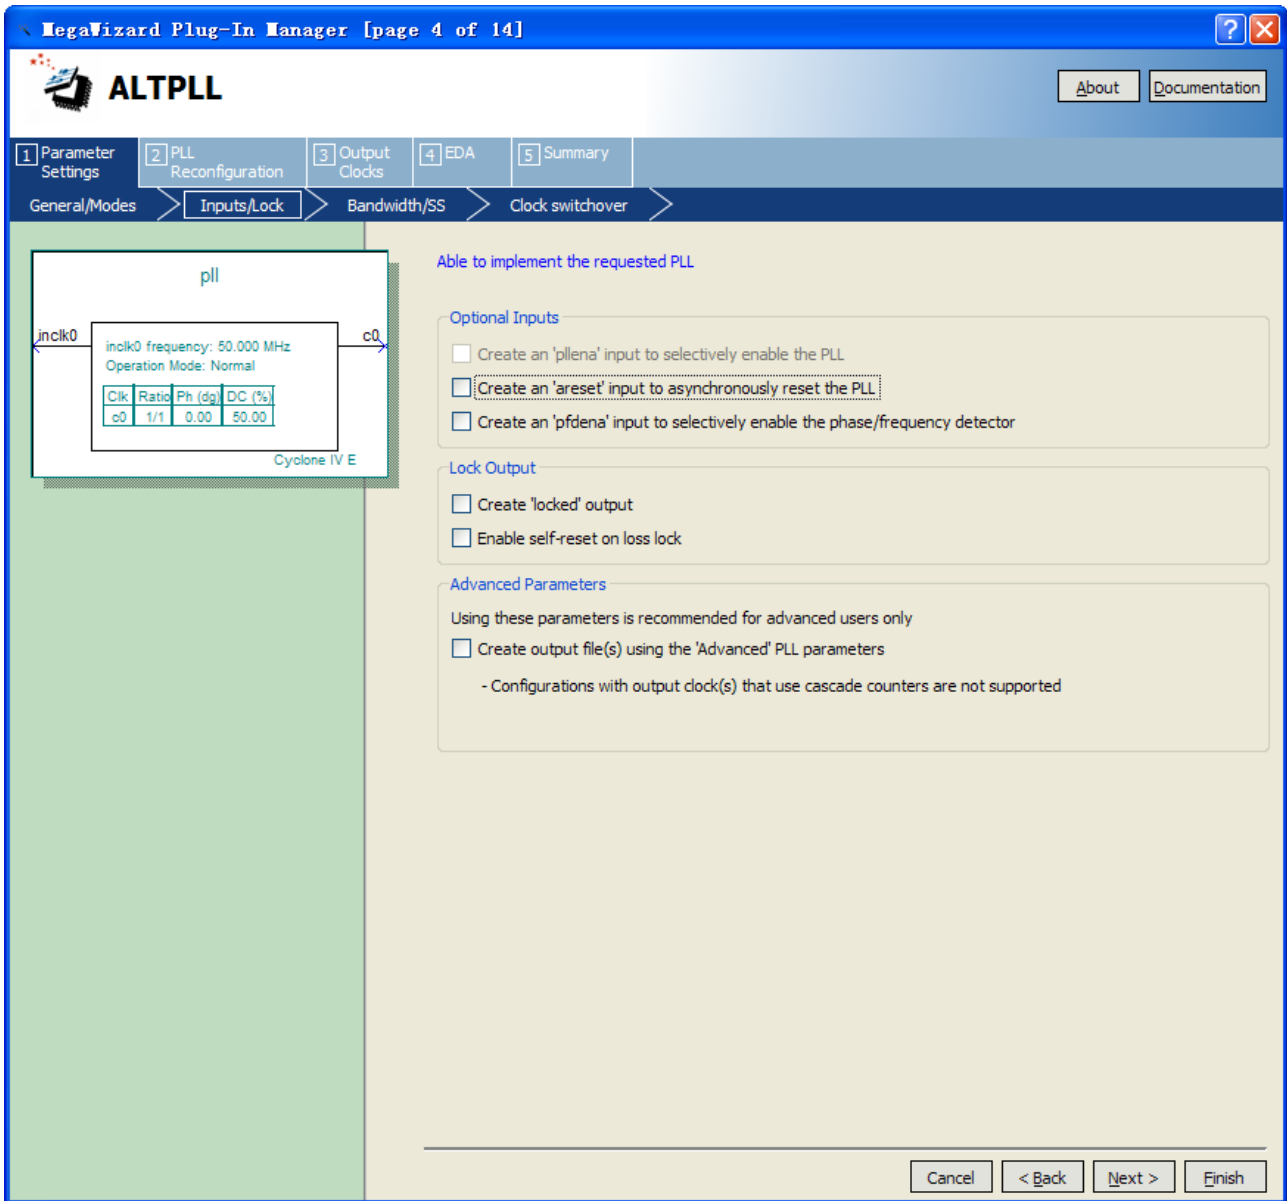

Figure 6-22 MegaWizard Plug-In Manager [page 4 of 14] Selections
6. Turn off all options on MegaWizard page 4. As you turn them off, pins disappear from the PLL block's graphical preview. See Figure 6-22 for an example.